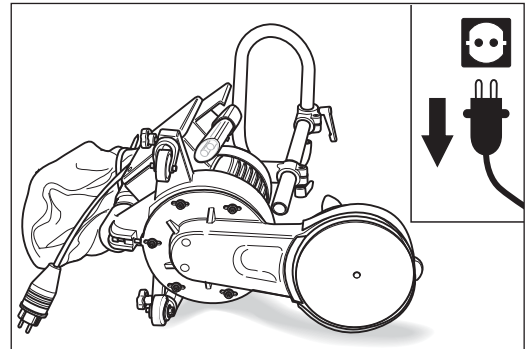

Fig. 62 Place the UNICO down on the **left-hand** side only.
**Always** set the UNICO down on the **left-hand** side (Fig. 62)! This will prevent damage to the floor, and the shape of the fan housing also stops any dust falling back out of the dust bag from getting into the fan housing.